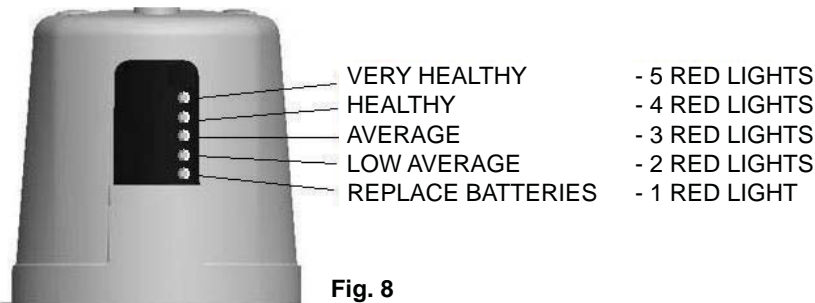

Fig. 9
- If 30 minutes have passed since the initial power-up of the valve - open up the battery compartment (Figures 9 and 10) and disconnect the battery snap for 10 seconds. Reconnect and replace the chrome cover and screws. If hardwired - disconnect battery snap to the hardwire converter for 10 seconds.
1. Remove the two cover screws and lift off CP metal cover, see Figure 9.